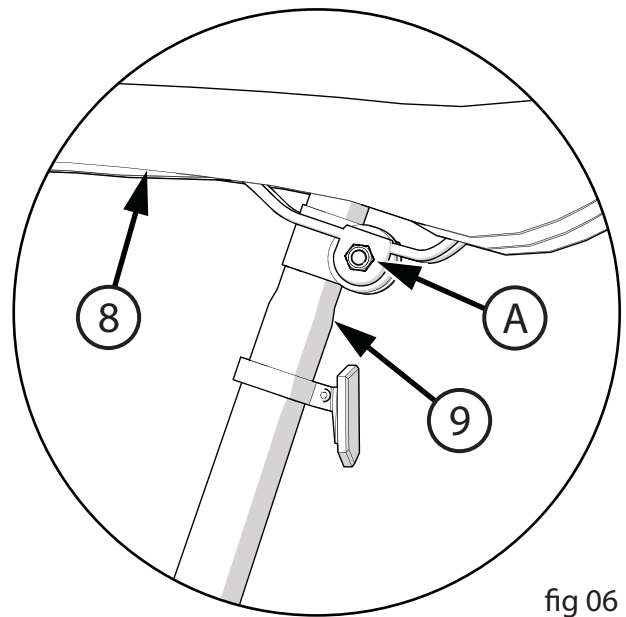

fig 06
- **If the seat moves in the Seat Clamp (A) (fig 06):**
- **If the Seat Post (9) moves in the Seat Tube (B):**